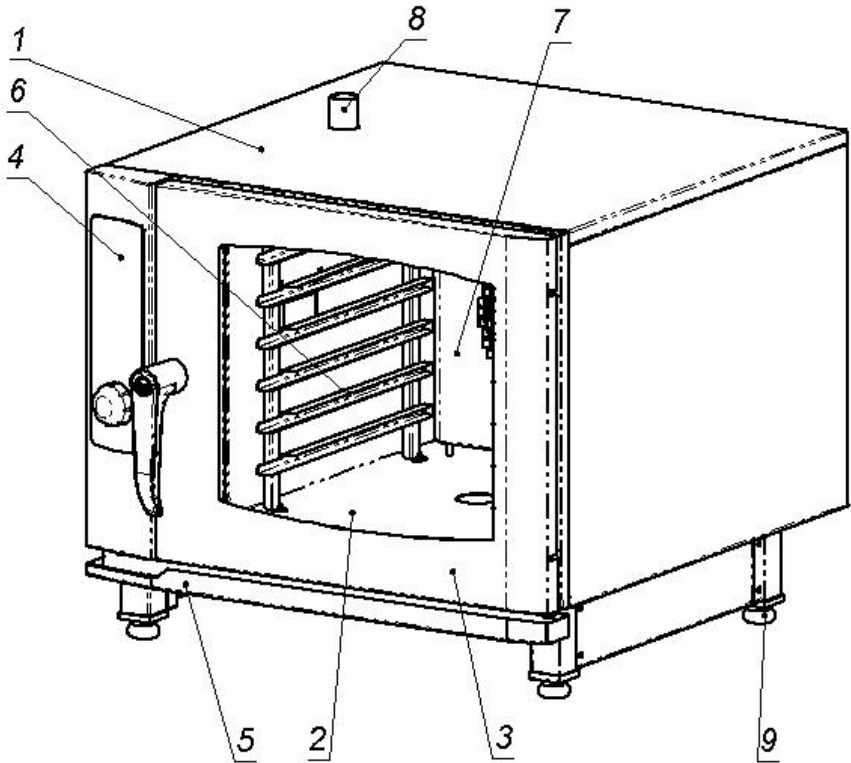
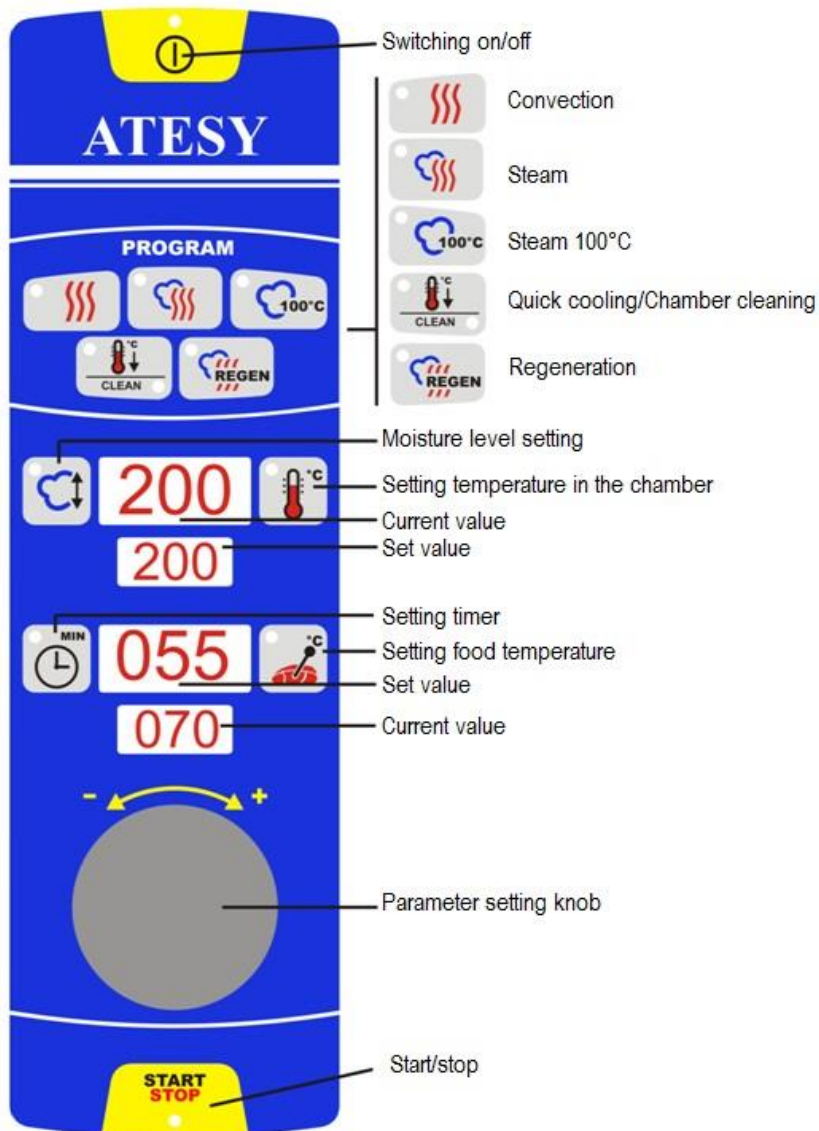

Fig. 1 — General appearance of the article
Fig. 2 — Control panel
The article (see fig. 1) includes a casing (1), a working chamber (2), and a lockable door (3). Under the door there is a tray (5) for collecting condensate. The front panel of the casing there is a control panel (4). Inside the working chamber shelf holders (6) are situated, which are easily removable for cleaning purposes. In the rear part of the working chamber a fan and tubular electric heaters are situated, providing convection and air heating inside the working chamber. With regard to safety considerations the tubular electric heaters are separated from the working chamber with a protective grid (7), which can be removed using special tool only. The grid also has a tray for water supply to the fan blades and the tubular electric heaters.
4.1. General appearance of the article is shown in Fig. 1, the control panel is shown in Fig. 2.